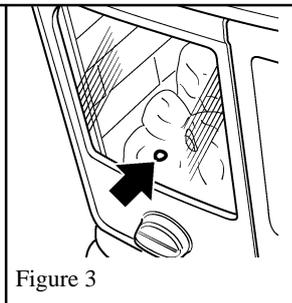

Figure 3
- ▶ Push in the right control knob (the pilot lighting knob) and, while keeping it depressed, turn anticlockwise through the ignition position marked  and up to the pilot position marked . The spark should light the pilot. The pilot flame can be seen by looking through the gap in the left front coal – See figure 3.